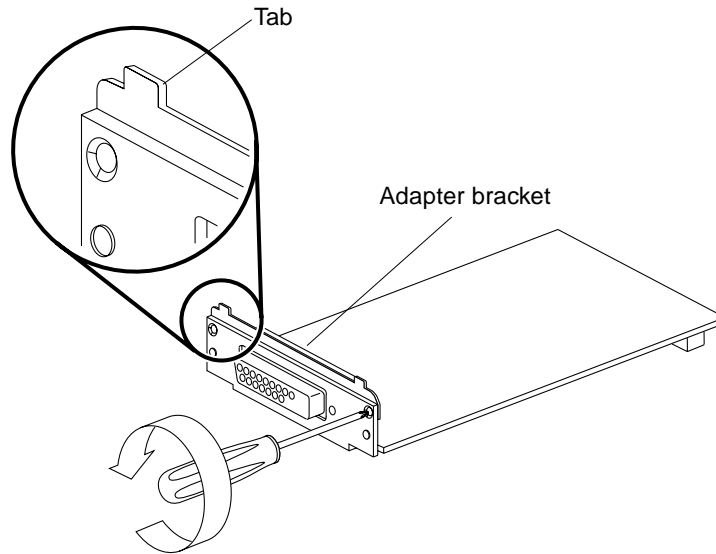

FIGURE 10-6 Removing the SBus Card Adapter Bracket
4. If the SBus card being installed has backplate tabs, proceed as follows (FIGURE 10-6):